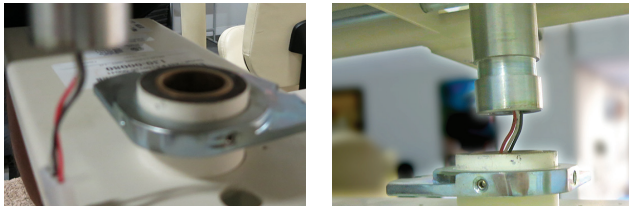

Figure 3-20
2. Route the wires through the mounting hole, making sure that the wiring goes all the way down. The swivel arm must be pushed down when installing to clear the seat post lock. **See Figure 3-20.**